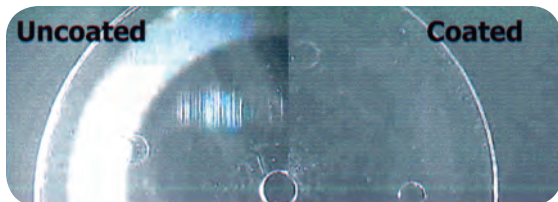

Figure 2. Comparison between a hardcoated and non-hardcoated part. Source: Momentive Performance Materials Research Laboratories, Waterford, NY.
potentially provide automotive designers and customers with an added degree of protection for the appliques, mirror shells, sunroofs, vent grills and polycarbonate (PC) exterior trim sported by many of today’s cars and trucks. These plastic parts have traditionally been susceptible to fading and cracking after extended exposure to harsh in-use environments. Silicone-based hardcoats, particularly thermally cured hardcoats, have enabled many companies to achieve a durable, high-gloss finish, giving a longer lasting protective surface for automotive exterior plastic parts (see Figure 2). Hardcoats help enable the use of plastic without sacrificing durable aesthetics or performance.